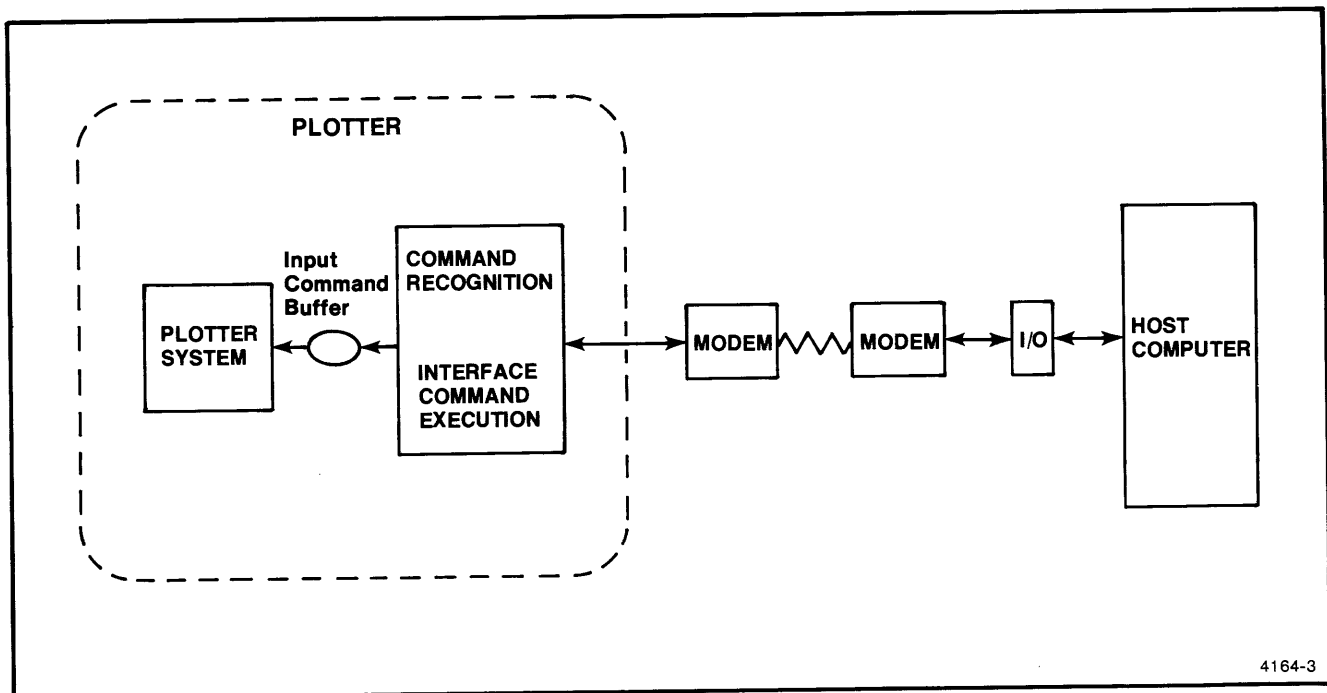

Figure 2-7. Input Buffering Mode.
**Buffer Operation.** Refer to Figure 2-7 during the following discussion. This figure illustrates a simplified model of plotter input buffering. All commands are received as a series of ASCII characters and stored in the Input Command Buffer. When the plotter is ready for another command, these stored commands are retrieved from the buffer and executed. Serial Interface commands (see Section 4 for a listing of these commands) are also decoded as they are placed in the buffer and all or some of their actions may take place immediately upon receipt.